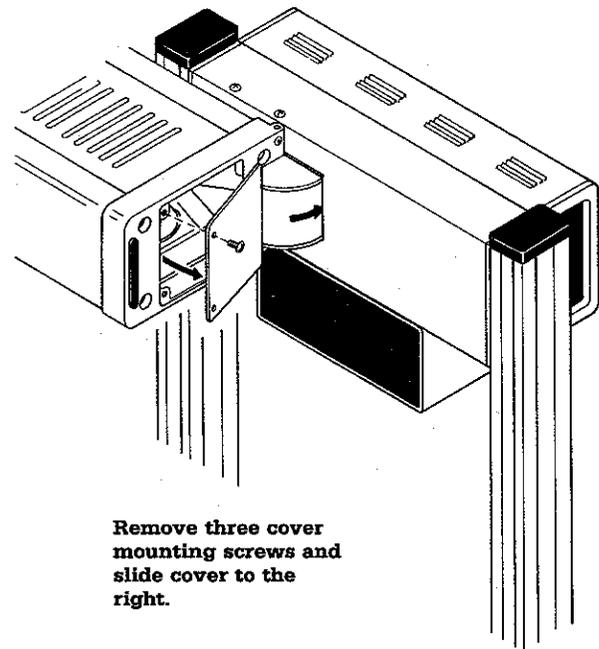

Figure 5-4
E. Examination Lamp Replacement (Figures 5-4 and 5-5)